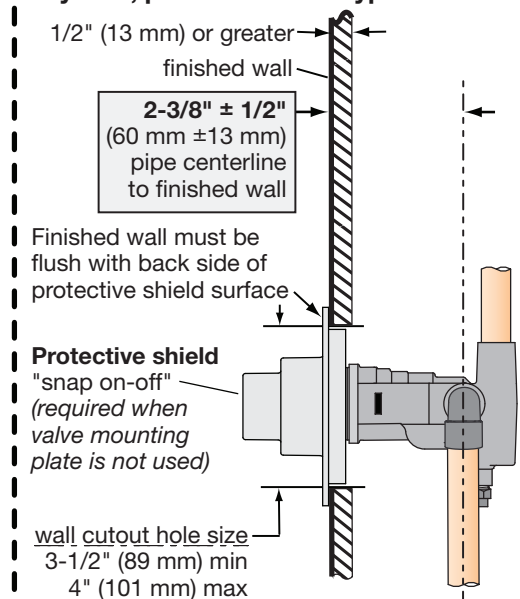

Figure 2 Mounting valve
- Consider whether to use mounting plate by reviewing figure 2 below.
- Reference figure 2 to determine whether shield is required.
Install through cutout hole in wall as specified in figure 2 below and dimension illustration on page 4.
### \* Notes: (also reference page 2, figure 2 for details)